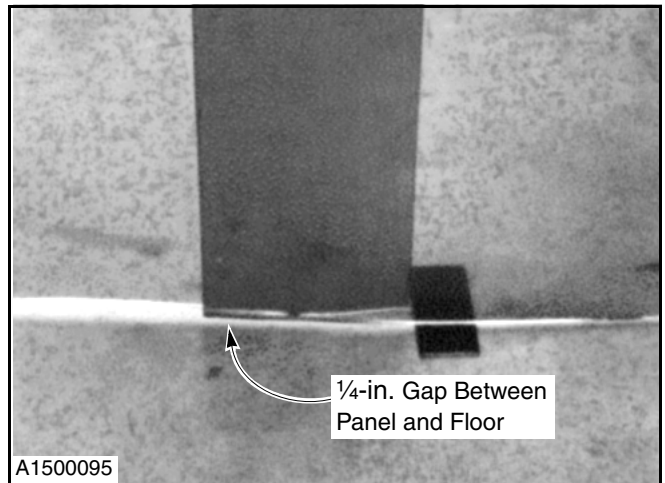

Figure 53
- Using a sharp utility knife, trim the bottom edge of the Puralon panel to within 1/4 in. of the floor. To make it easier to move your knife through the material, pull the excess material away from the blade as you make the cut. (See Figure 53.)